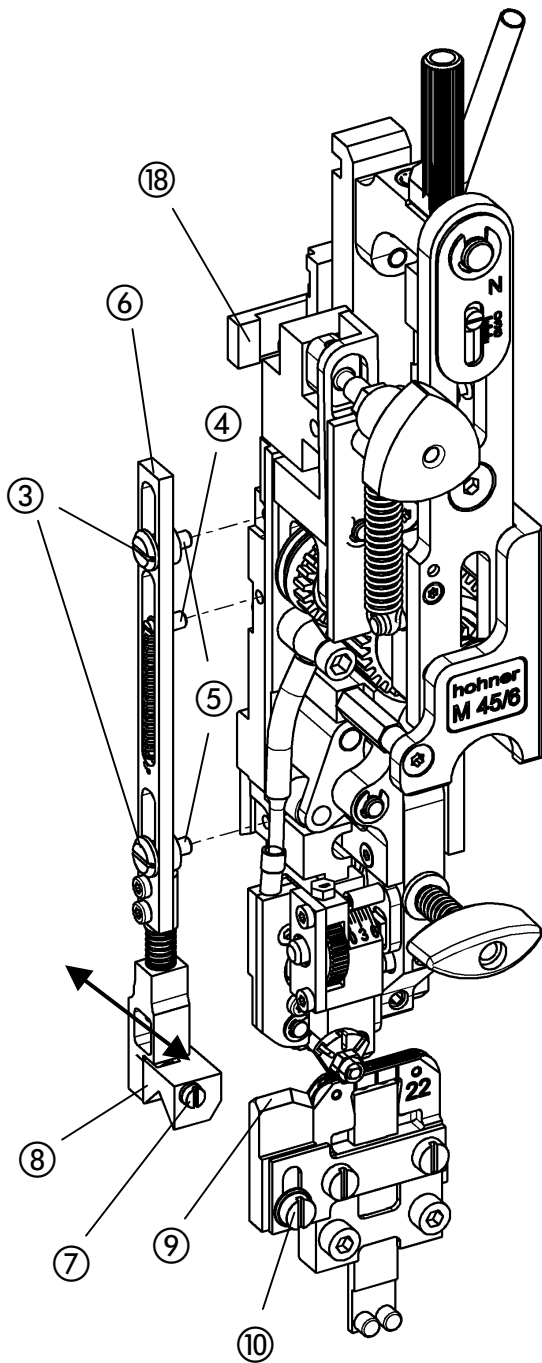
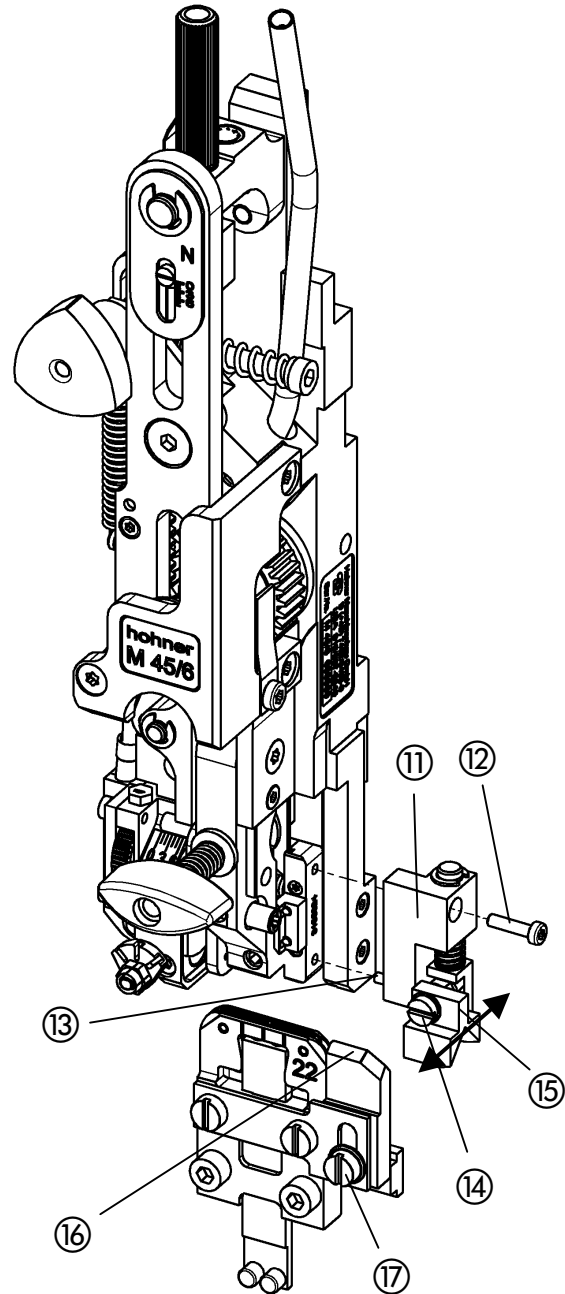

Fig. 16
Fig. 17
- Fig. 17 -
- In order to install the holding down device ⑪, insert the guide pin into the borehole on the bender and tighten the fastening screw ⑫.
- The centering prism ⑮ can be moved back and forth by turning the adjusting screw ⑭.
- Move the centering prism ⑮ backward or forward until it is precisely aligned with the prism of the slider ⑯.
- Adjust the height of the prism ⑯ (approx. 0.5 mm above the clincher box) by moving it in the slot and tighten the fastening screw ⑰.
- Fig. 16 -
- In order to mount the holding down device, screw the spring bolt ④ into the borehole on the stitching head.
- Insert extension spring into spring bolt ④ and lifting rod ⑥.
- Fix holding down device by screwing fastening screw ③ to lifting rod ⑥ and flange bushings ⑤ on the stitching head.
- Installing the carrier ⑱ in the main slide bar - see SPARE PARTS LIST page E27.
- The centering prism ⑧ can be moved back and forth by turning the adjusting screw ⑦.
- Move the centering prism ⑧ backward or forward until it is precisely aligned with the prism of the slider ⑨.
- Adjust the height of the prism ⑨ (approx. 0.5 mm above the clincher box) by moving it in the slot and tighten the fastening screws ⑩.